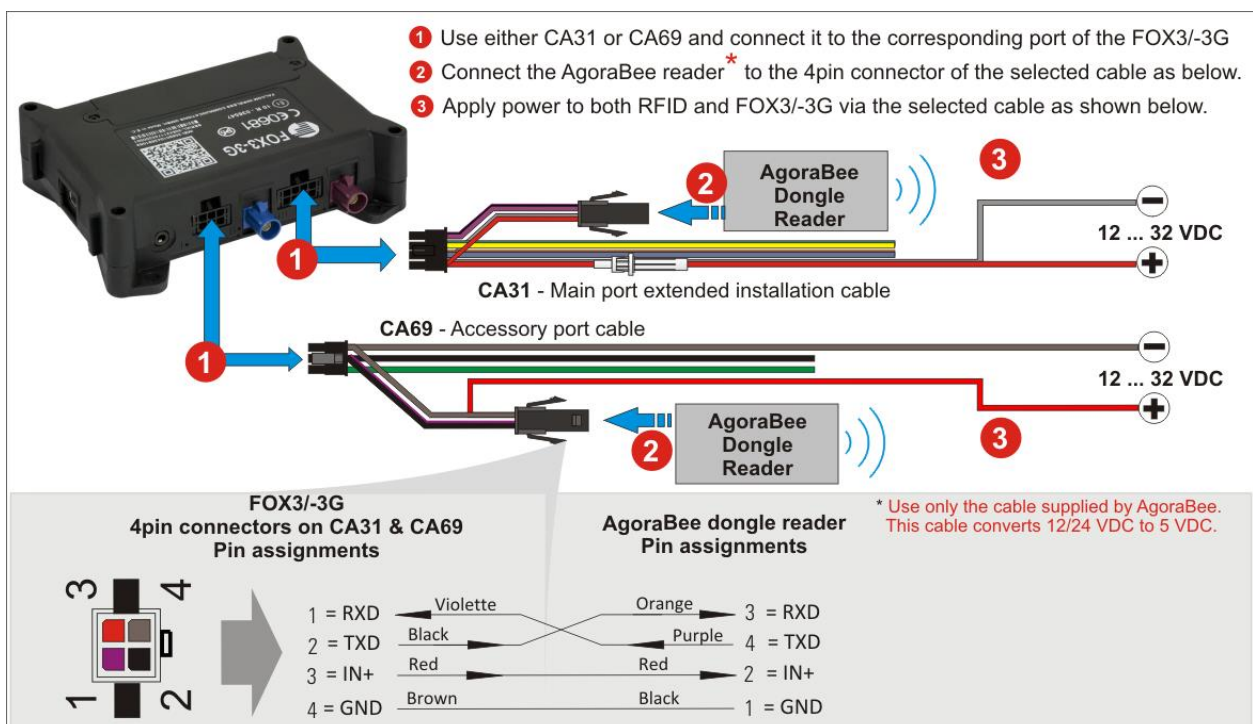

Figure 2: Use one of the cables to interface the AgoraBee reader to FOX3/-3G
- ✓ Connect the RFID reader to the FOX3/-3G device as mentioned in the figure 2 above.